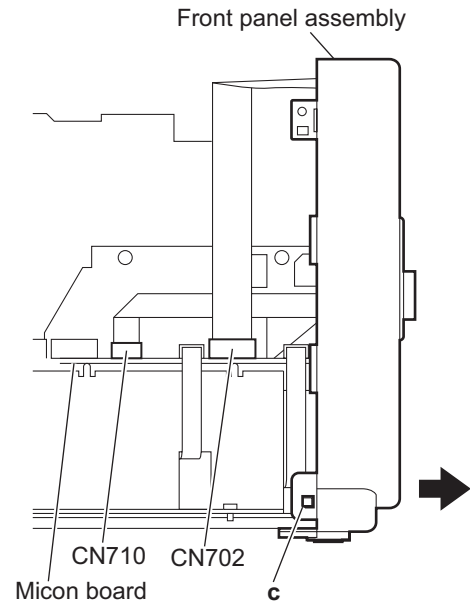

Fig.6
3.1.4 Removing the front panel assembly (See Figs.6 to 8)
- Remove the rear cover, side panels(L)/(R) and top cover assembly.
- (1) From the left side of the main body, disconnect the card wires from the connectors (CN702, CN710) on the micon board. (See Fig.6.)
- (3) From the both sides and bottom sides of the main body, release the joints **c** and joint **d**. (See Figs.6 to 8.)
- (4) Remove the front panel assembly in the direction of the arrow. (See Figs.6 to 8.)